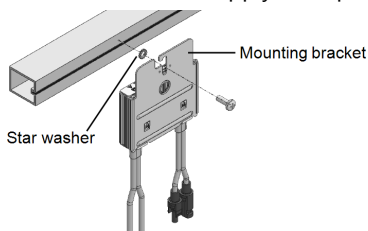

Figure 3: Power Optimizer installation and grounding using a star washer
1. Determine the Power Optimizer mounting location and use the Power Optimizer mounting brackets to attach the Power Optimizer to the support structure (See *Figure 3*). It is recommended to mount the Power Optimizer in a location protected from direct sunlight. For frame-mounted Power Optimizers follow the instructions supplied with the optimizers, or refer to https://www.solaredge.com/sites/default/files/installing_frame_mounted_power_optimizers.pdf.